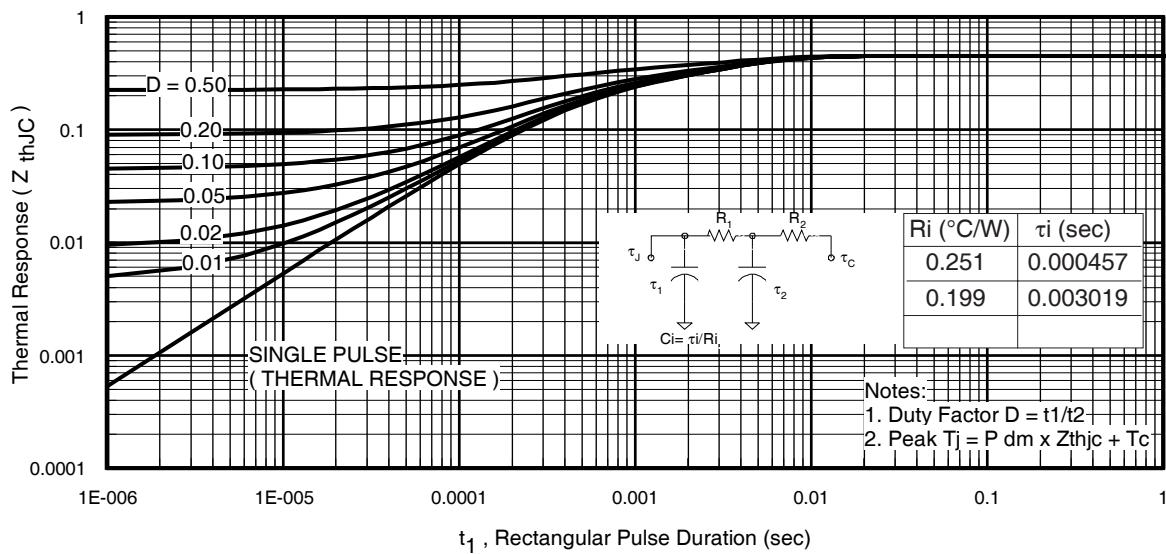
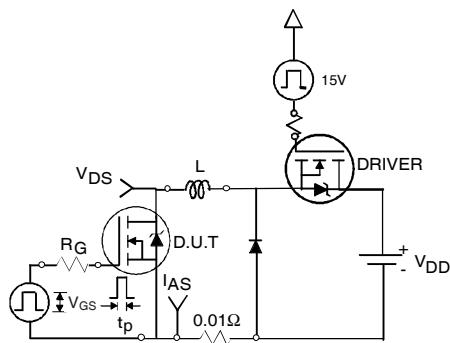

Fig 11. Maximum Effective Transient Thermal Impedance, Junction-to-Case
Fig 12a. Unclamped Inductive Test Circuit
- ① Repetitive rating; pulse width limited by max. junction temperature. (See fig. 11).
- ② Limited by $T_{J\text{max}}$, starting $T_J = 25^\circ\text{C}$, $L=0.11\text{mH}$, $R_G = 25\Omega$, $I_{AS} = 75\text{A}$, $V_{GS} = 10V$. Part not recommended for use above this value.
- ③ $I_{SD} \leq 75\text{A}$, $di/dt \leq 340\text{A}/\mu\text{s}$, $V_{DD} \leq V_{(\text{BR})\text{DSS}}$, $T_J \leq 175^\circ\text{C}$.
- ④ Pulse width $\leq 1.0\text{ms}$; duty cycle $\leq 2\%$.
- ⑤ $C_{oss \text{ eff.}}$ is a fixed capacitance that gives the same charging time as C_{oss} while V_{DS} is rising from 0 to 80% V_{DSS} .
- ⑥ Limited by $T_{J\text{max}}$, see Fig.12a, 12b, 15, 16 for typical repetitive avalanche performance.
- ⑦ This value determined from sample failure population. 100% tested to this value in production.
- ⑧ This is applied to D²Pak, when mounted on 1" square PCB (FR-4 or G-10 Material). For recommended footprint and soldering techniques refer to application note #AN-994.
- ⑨ R_0 is measured at T_J of approximately 90°C .
3. Equation below based on circuit and waveforms shown in Figures 12a, 12b.
- $Z_{thJC}(D, t_{av})$ = Transient thermal resistance, see figure 11